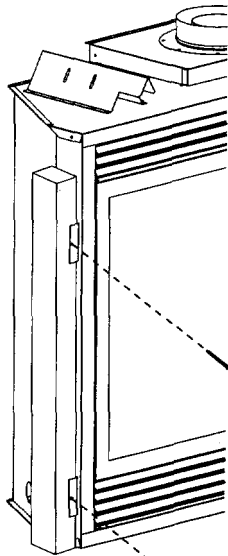

Figure 10
Blush Mount Mantel Installation (Figure 10)
The fireplace must extend 314" beyond finished wall surface when using a flush mount mantel. Refer to Figure 10 to locate nailing flanges on fireplace sides. Mark and drill two (2) 118" holes into fireplace side to mount each nailing flange. Use eight (8) 1/2" hex-head screws supplied in hardware package to attach nailing flanges to fireplace sides.
Attention: When fireplace is installed in optional full cabinet mantel or corner mantel the (4) four nailing flanges shown in Figure 10 will not be installed on the side of outer casing. The fireplace will be attached to the full cabinet mantel or corner mantel with the (2) two nailing flanges located on the top of the outer casing assembly.